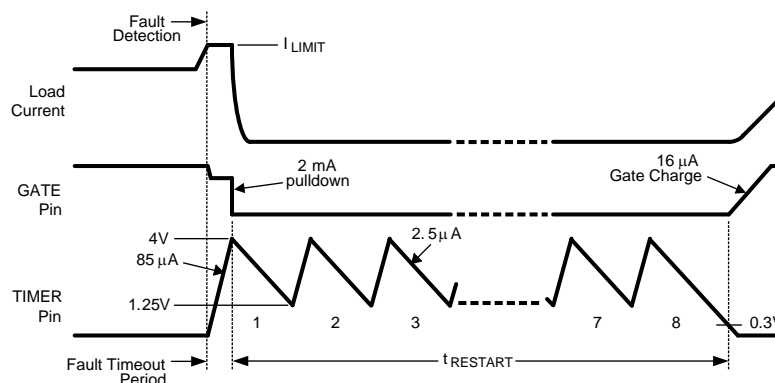

Figure 27. Restart Sequence (LM5069-2)
When the current limit or power limit threshold is reached during turn-on or as a result of a fault condition, the gate-to-source voltage of Q1 is modulated to regulate the load current and power dissipation. When either limiting function is activated, an 85  $\mu\text{A}$  fault timer current source charges the external capacitor ( $C_T$ ) at the TIMER pin as shown in Figure 27 (Fault Timeout Period). If the fault condition subsides during the Fault Timeout Period before the TIMER pin reaches 4.0V, the LM5069 returns to the normal operating mode and  $C_T$  is discharged by the 2.5  $\mu\text{A}$  current sink. If the TIMER pin reaches 4.0V during the Fault Timeout Period, Q1 is switched off by a 2 mA pull-down current at the GATE pin. The subsequent restart procedure then depends on which version of the LM5069 is in use.
The LM5069-2 provides an automatic restart sequence which consists of the TIMER pin cycling between 4.0V and 1.25V seven times after the Fault Timeout Period, as shown in Figure 27. The period of each cycle is determined by the 85  $\mu\text{A}$  charging current, and the 2.5  $\mu\text{A}$  discharge current, and the value of the capacitor  $C_T$ . When the TIMER pin reaches 0.3V during the eighth high-to-low ramp, the 16  $\mu\text{A}$  current source at the GATE pin turns on Q1. If the fault condition is still present, the Fault Timeout Period and the restart cycle repeat.
**C) Restart Timing** For the LM5069-2, after the Fault Timeout Period described above,  $C_T$  is discharged by the  $2.5 \mu\text{A}$  current sink to 1.25V. The TIMER pin then cycles through seven additional charge/discharge cycles between 1.25V and 4.0V as shown in Figure 27. The restart time ends when the TIMER pin voltage reaches 0.3V during the final high-to-low ramp. The restart time, after the Fault Timeout Period, is equal to: